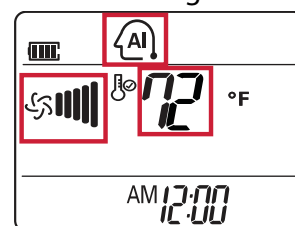

Figure 10: Auto Changeover Display
2. Press the **Mode** button  repeatedly to select auto operation  (see icon display in red box in Figure 10 below).